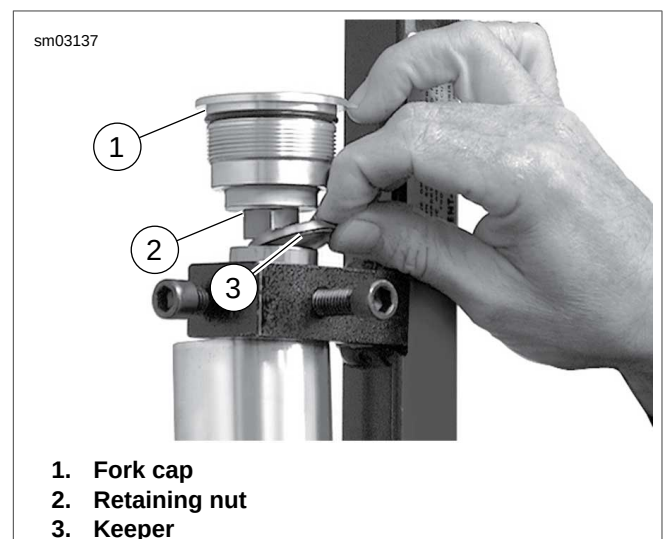

Figure 1-82. Remove Keeper
4. See Figure 1-82. Remove keeper and loosen retaining nut, and fork cap from cartridge assembly.